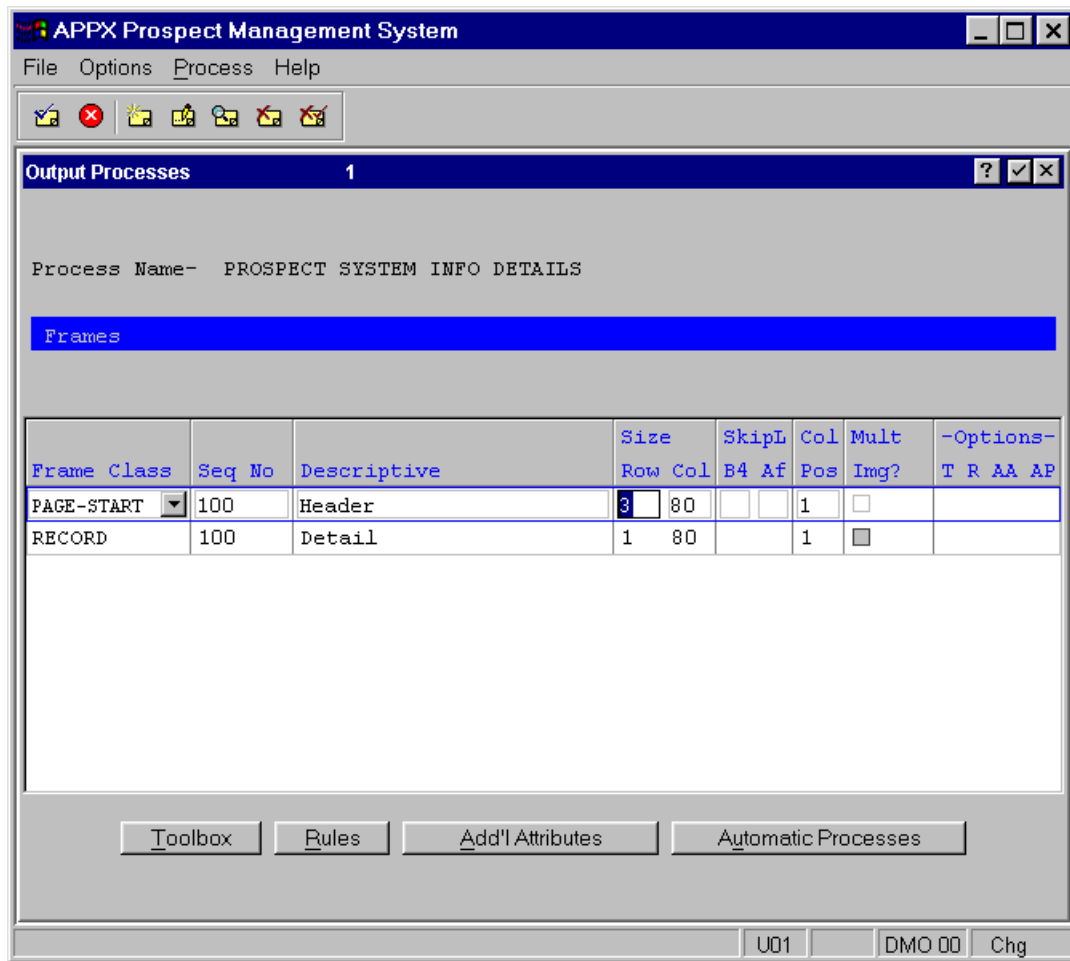

Figure E4.11 -- Output Process Frame listing
- There are two frames listed (*Figure E4.11*). The first is a **PAGE-START** frame, which is the frame in which column headings are defined. The second is a **RECORD** frame, which contains the data items for the report.